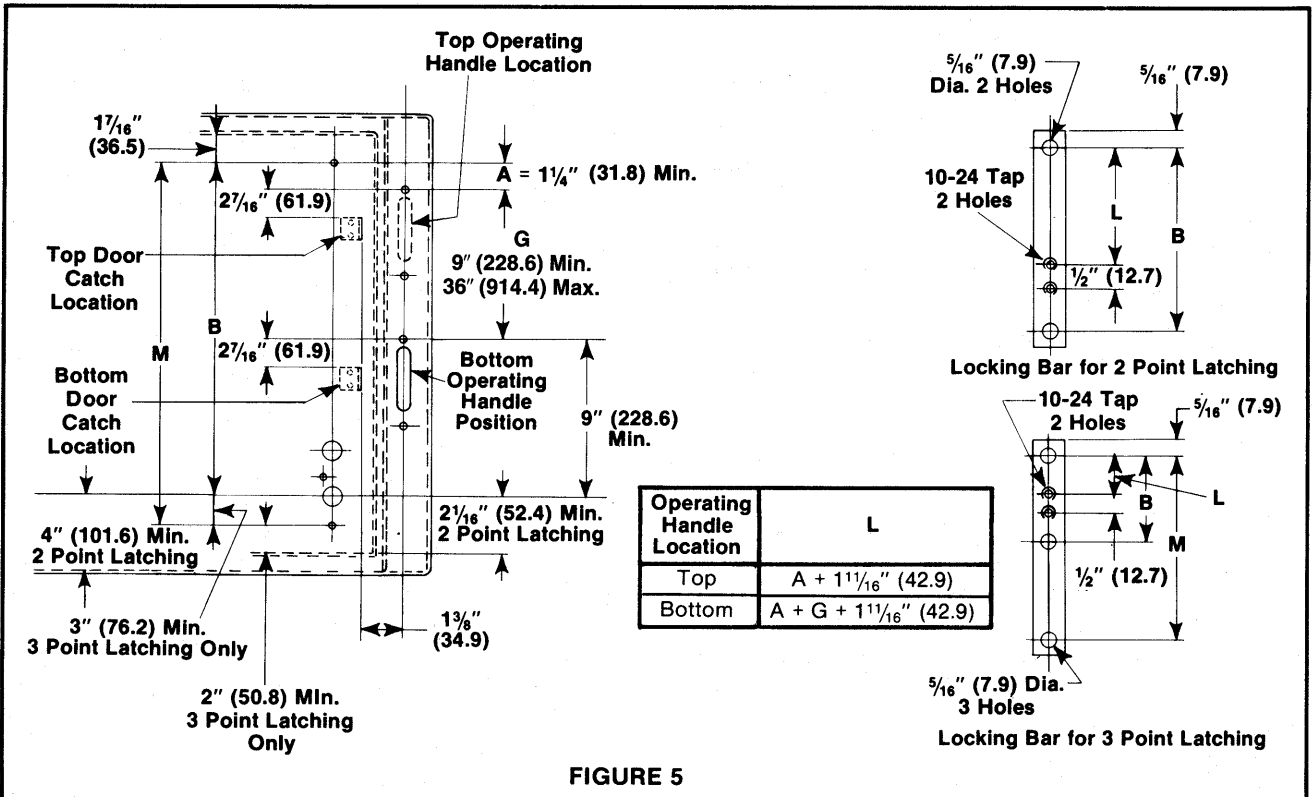
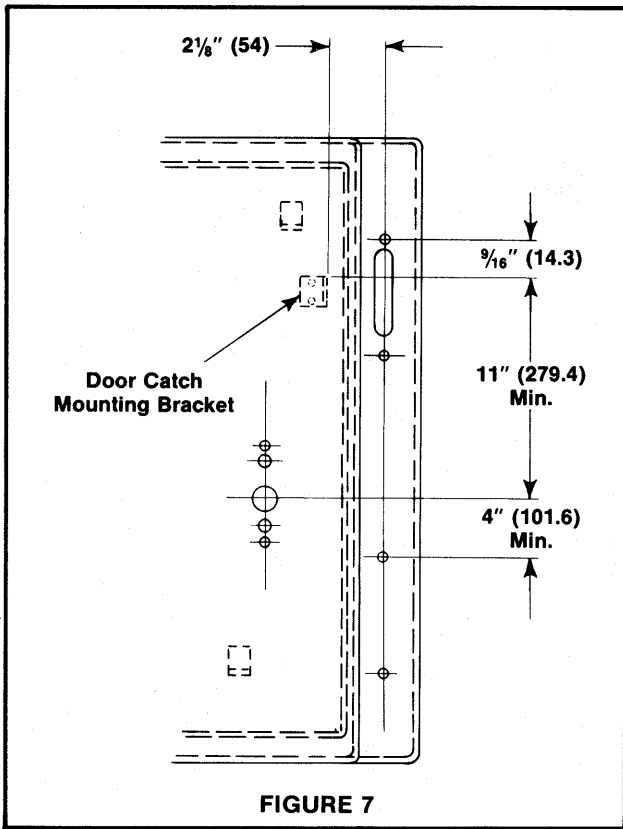

FIGURE 5
FIGURE 7
1. Check all enclosure and door dimensions required per the instruction sheets for the disconnecting means and the door hardware kit being installed to ensure that all minimum dimensions are being maintained. **Note:** For applications with door hardware kits also refer to either Figures 5 and 6 (Catalog Numbers 1494V-L1, LL1 and L2) or Figure 7 (Catalog Numbers 1494V-L3 and LL3).
1. The door hardware handle can be installed either below the bottom operating handle position or between the top and bottom positions as shown in Figures 5 and 6 respectively.
3. Establish the length of the locking bar for the application and drill and tap it per Figures 5 and 6.
4. Locate the door catch per Figure 5 or 6 to satisfy the application.
1. The door hardware handle must be located below the operating handle. It can be installed between the sets of flange drillings as shown in Figure 7 only when the operating handle is located in the top location.
4. Locate the door catch per Figure 7 to satisfy the application.